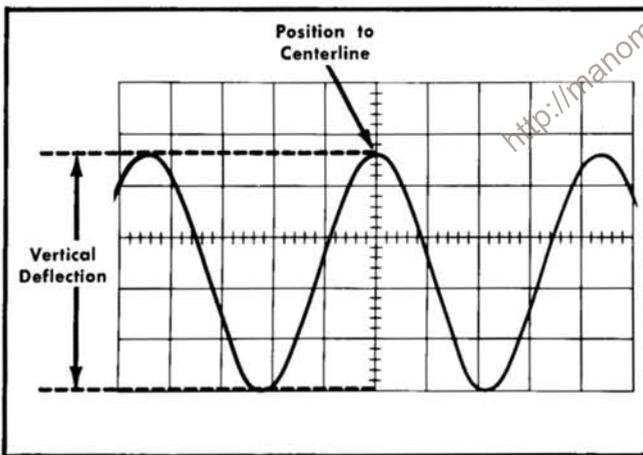

Fig. 2-14. Measuring peak-to-peak voltage of a waveform.
6. Turn the Vertical POSITION control so the lower portion of the waveform coincides with one of the graticule lines below the centerline, and the top of the waveform is on the viewing area. With the Horizontal POSITION control, move the display so one of the upper peaks lies near the vertical centerline (see Fig. 2-14).
Example. Assume a peak-to-peak vertical deflection of 4.6 divisions (see Fig. 2-14) using a 10X attenuator probe and a VOLTS/DIV switch setting of .5.